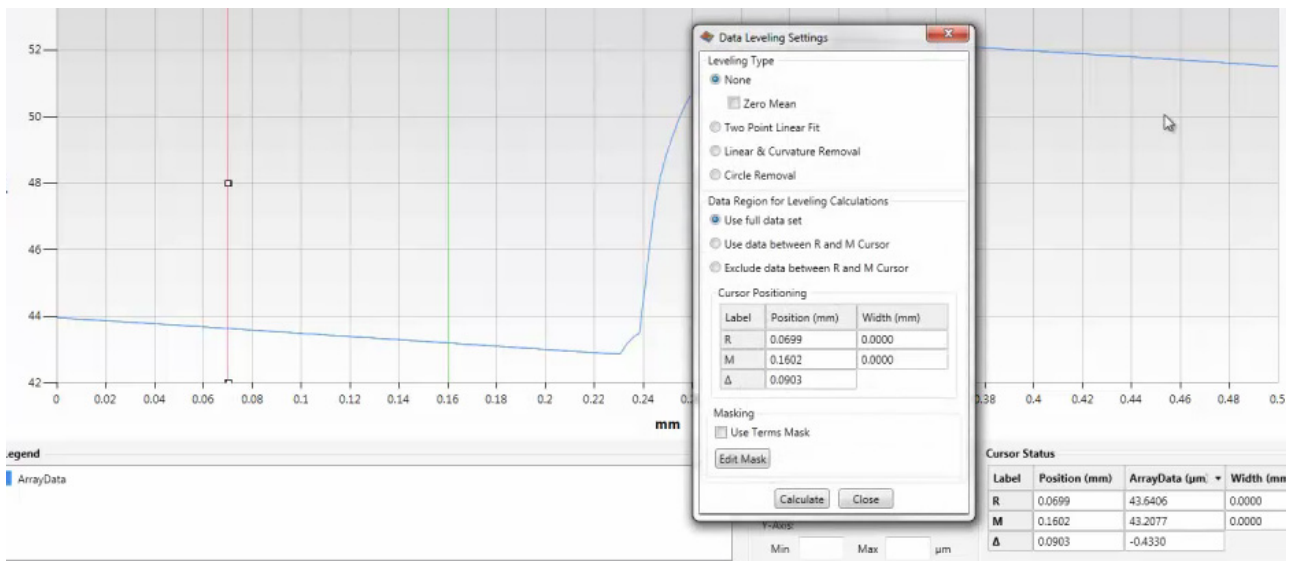

Figure 4-22: Data Leveling Pop-up Menu
- 3 Right-click and select **Two-Point Linear Fit** from the **Data Leveling Settings** pop-up menu (see Figure 4-22).